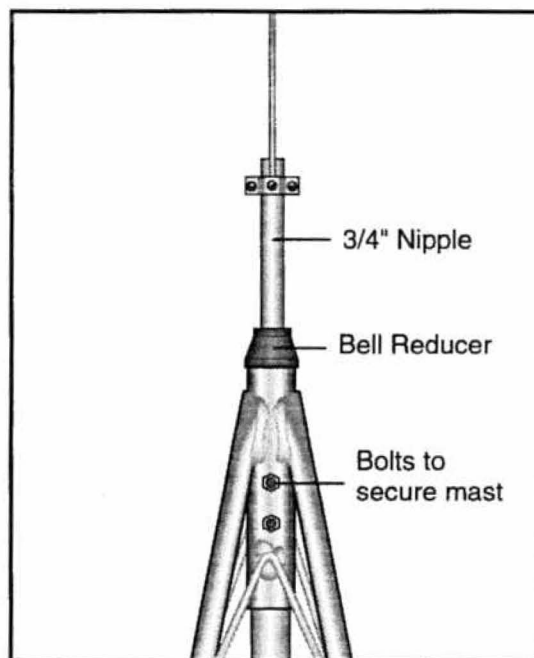

FIGURE 3-4 UT3 Mast
1. Install the mast as shown in Figure 3-4. Attach the 3/4" x 10" nipple to the mast using the bell reducer. Loosen the two bolts at the top of the tower and insert the mast. For a 3 m mounting height, the bell reducer should rest against the top of the tower. Tighten the two bolts to secure the mast.